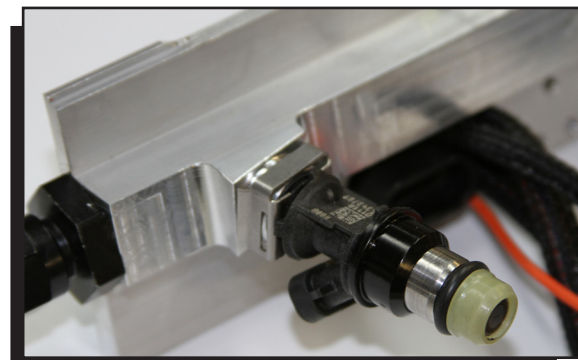

Figure 6 Injector Clips.
5. Push the fuel injectors into the bung without forcing them on. The injectors should slide in easily (Figure 6).